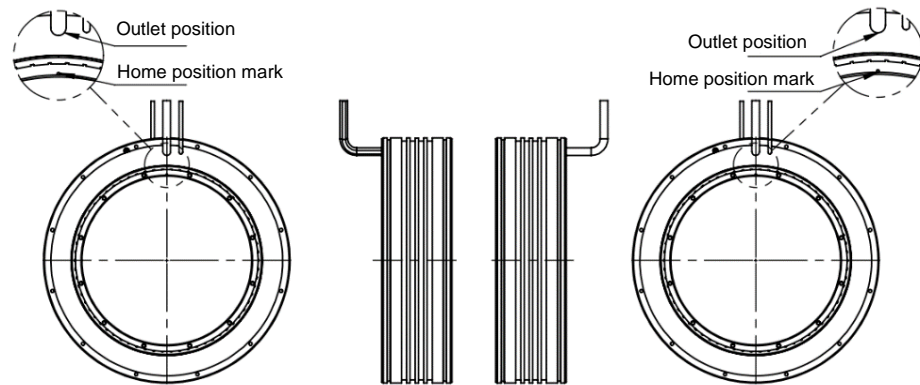

Figure 4.18 Relative position of home position mark and outlet position during parallel operation
4. Home position mark on rotor should be aligned with motor cable outlet position (the position error range is $\pm 0.5^\circ$), as **Figure 4.18** shows. If the motors are operated at rated load but home position mark is not aligned with outlet position, one of the motors in parallel operation may overload and overheat.